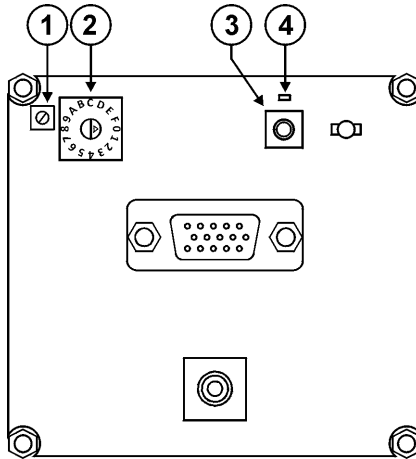

Figure 7: WP-101 PCB Assembly Front View with Face Plate Removed
3. Ensure that the rotary switch (see Figure 7) is in position 0. If it is not, use a small screwdriver to turn it to 0.
5. Press the EDID capture button (see Figure 7).
Figure 7 and Table 3 define the location of the PCB features used when setting the EDID manually.
2. Using a small, flat screwdriver, turn the rotary switch located on the PCB assembly (see Figure 7) to the required position as defined in Table 4.
4. Press the EDID CAPTURE button (see Figure 7).
2. Using a small, flat screwdriver, turn the trimmer located on the PCB assembly (see Figure 7).